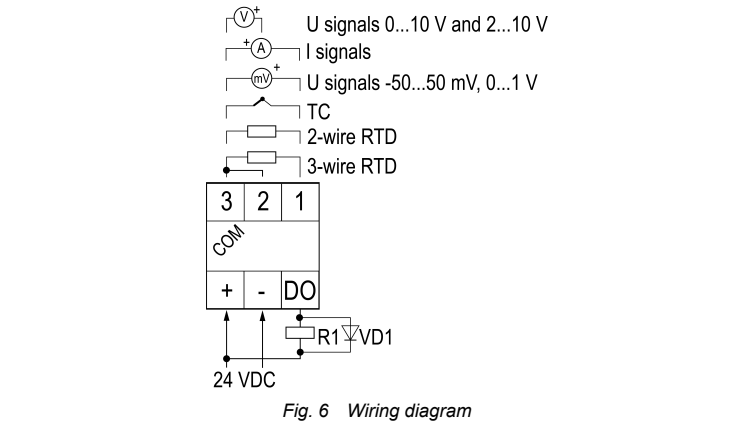

Fig. 6 Wiring diagram
- Connect the “device – sensor” communication lines to the primary converter and the device input and connect the device to the power supply (see Fig. 6).